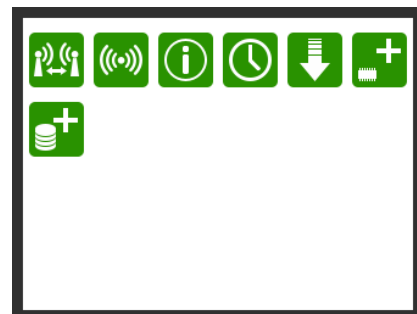

Figure 6-11 Start screen
1. In the screen (Figure 6-11) press